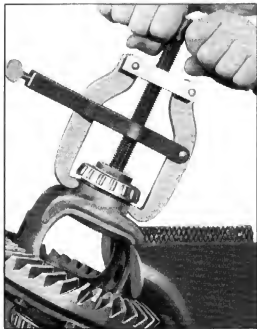

Fig. 7—Removing Differential Bearings
1. The legs of differential bearing puller, TR 278-R, should be fitted into the two notches in the case and the clamp screw tightened. Turning the puller screw will remove the bearing without damage to either the bearings or the case, Fig. 7.